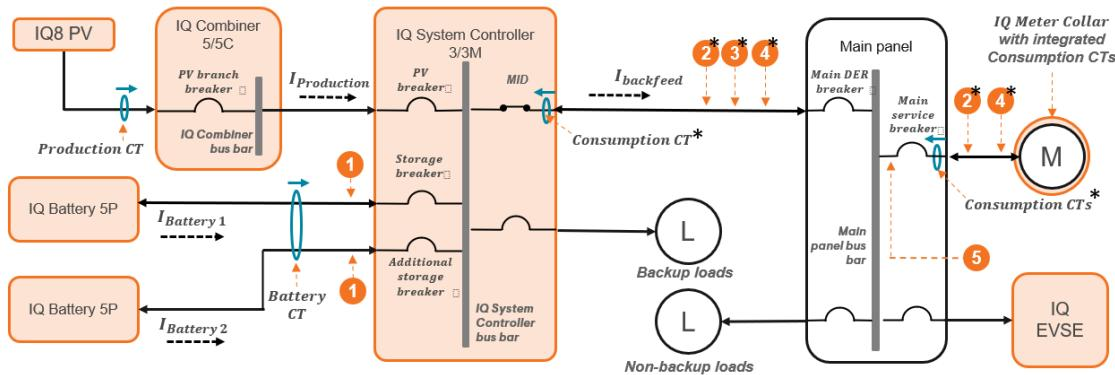

Figure 2: Example of an Enphase Energy System with IQ System Controller 3 in grid-forming configuration
- Busbar Overload Control (3a in Figure 2: Example of an Enphase Energy System with IQ System Controller 3 in grid-forming configuration on page 7): This feature reduces the system payback period by allowing maximum renewable energy generation and helps avoid the cost of panel upgrade for a large PV and battery system.
- Feeder Control (3b in Figure 2: Example of an Enphase Energy System with IQ System Controller 3 in grid-forming configuration on page 7): This feature enables avoiding the cost of a panel upgrade for a large PV and battery system.
5. IQ EVSE main breaker trip avoidance (MBTA) mode: This feature enables the installation of a more powerful IQ EVSE to charge the electric vehicle (EV) by avoiding Main service breaker trips when home loads are extremely high.
Figure 2: Example of an Enphase Energy System with IQ System Controller 3 in grid-forming configuration on page 7 provides a bird's-eye view of the point of current being measured/monitored and limited using Enphase Power Control for each feature.